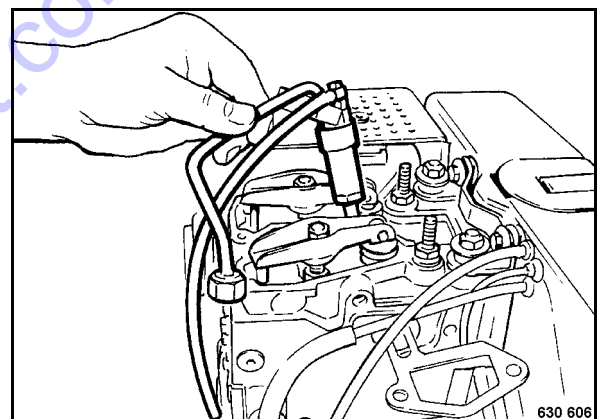

Fig. 78
- Disassemble the injection nozzle (Fig. 78) completely with the nozzle connection.